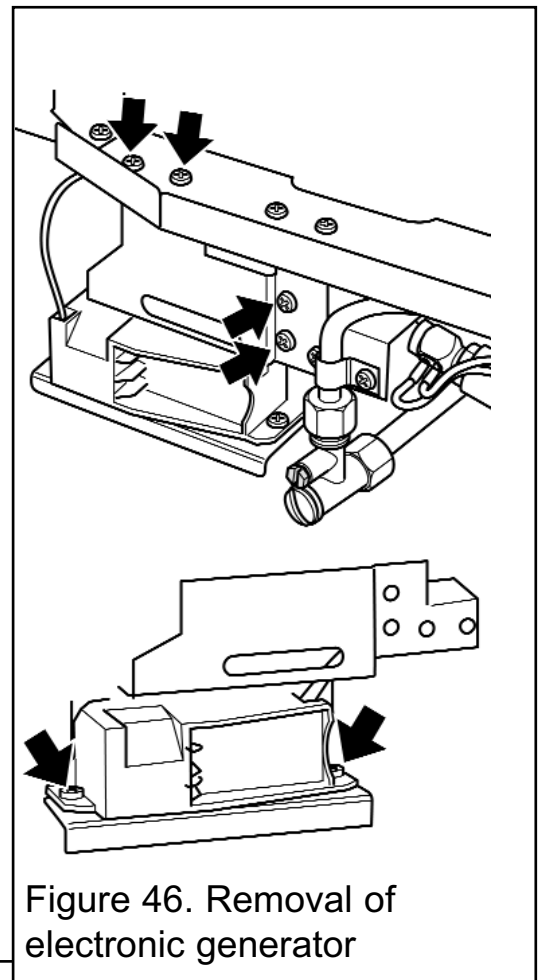

Figure 46. Removal of electronic generator
5. Unscrew the four support bracket screws (See figure 46). The generator and its support bracket can now be moved forward. Be careful not to apply tension to the microswitch leads.
6. Remove the two fixing screws that attach the generator unit to the support bracket. The igniter generator can now be removed (See figure 46)